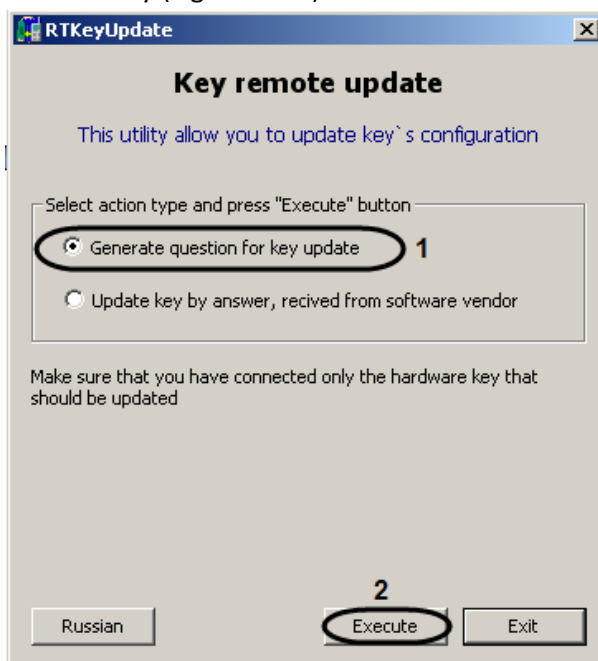

Fig. 12.2—3 Create the question for key update
1. Launch the RTKeyUpdate.exe utility (Fig. 12.2—3).
2. Set the «Generate request for key update» checkbox (Fig. 12.2—3, 1).